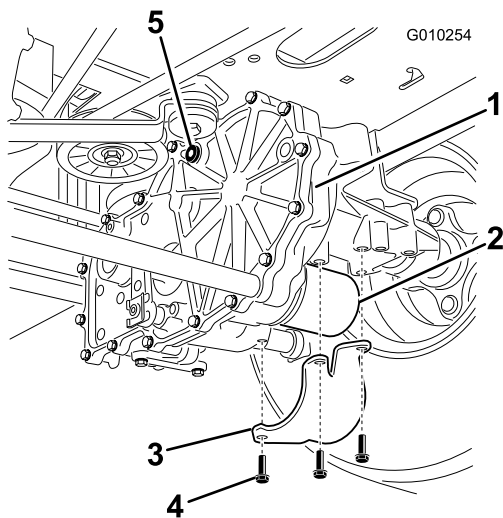

Figure 51
3. Locate the filter and guards on each transaxle drive system (Figure 51).